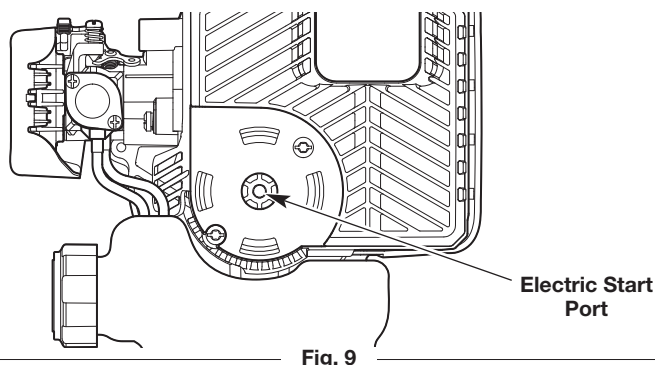

Fig. 9
6. Insert the electric start accessory into the electric start port (Fig. 9). Refer to the *Operation* section of the electric start accessory operator's manual.